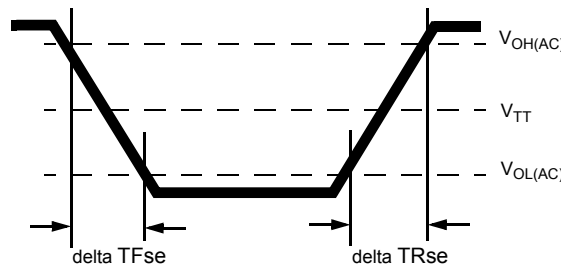

Figure 7. Single-ended Output Slew Rate Definition
With the reference load for timing measurements, output slew rate for falling and rising edges is defined and measured between VOL(AC) and VOH(AC) for single ended signals as shown in Table 16 and Figure 7.